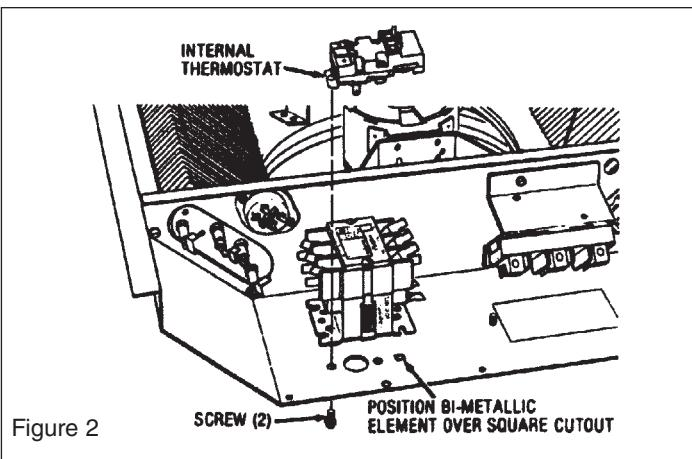

Figure 2
- Install the Internal Thermostat in the heater as shown in Figure 2.